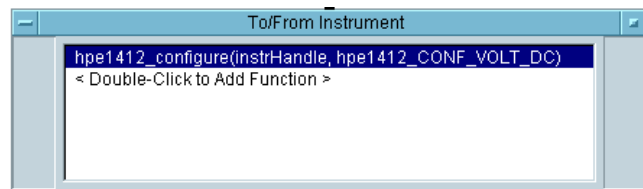

Figure 3-32. DC Voltage Function in VXIplug&play Object
8. Click OK. The To/From Instrument object now contains an entry for `hpe1412_configure(instrHandle, hpe1412_CONF_VOLT_DC)`, as shown in Figure 3-32.